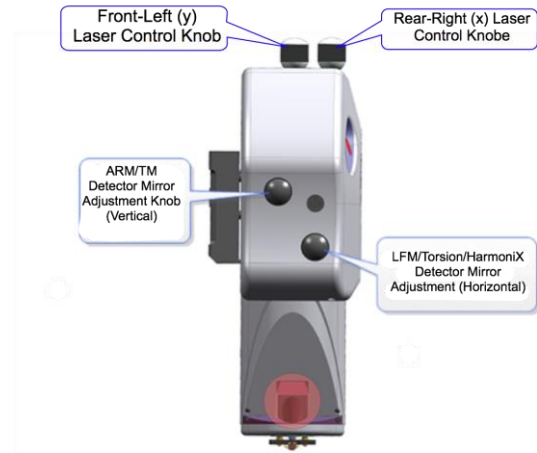

Figure 5. Dimension Icon Scanner Head
- 14) If the tip is out of focus that prevents the laser alignment, see Step 15. Align the laser on the cantilever and maximize the sum of the signals on the detector using the knobs on the top of the scanner head as shown in Figures 5 & 6. If needed, a video is available in the software to help . Do not turn the knobs too far in one direction, as this can break the mechanism and even worse break parts inside the head. **NEVER FORCE THE KNOBS.**
- 15) Align the signal on the detector by adjusting the knobs on the left of the scanner head, Figure 5, until the vertical and horizontal deflection are either zeroed or nearly zeroed. 0 ± 0.3 V are acceptable, Figure 7. Again, a video is available in the software to assist you. Do not turn the knobs too far in one direction, as this can break the mechanism and even worse break parts inside the head. **NEVER FORCE THE KNOBS.**